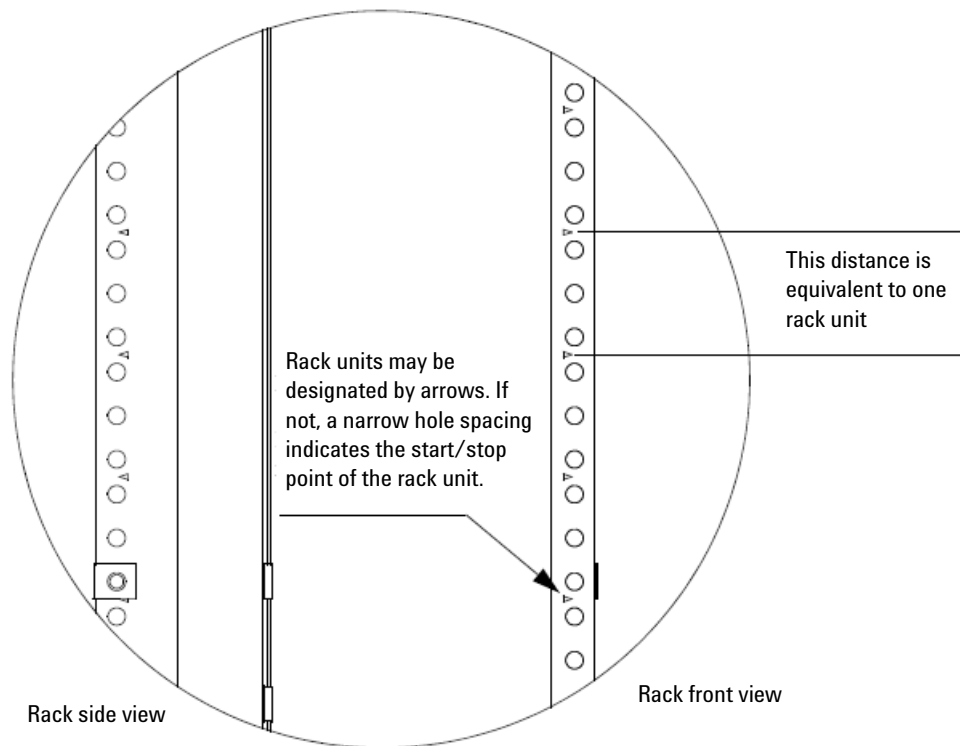

Figure 1-15 Rack unit
- 1 To prepare the rack for sheet metal nut installation, eight rack mount units must be designated for use. Figure 1-15 shows how to determine a rack unit.